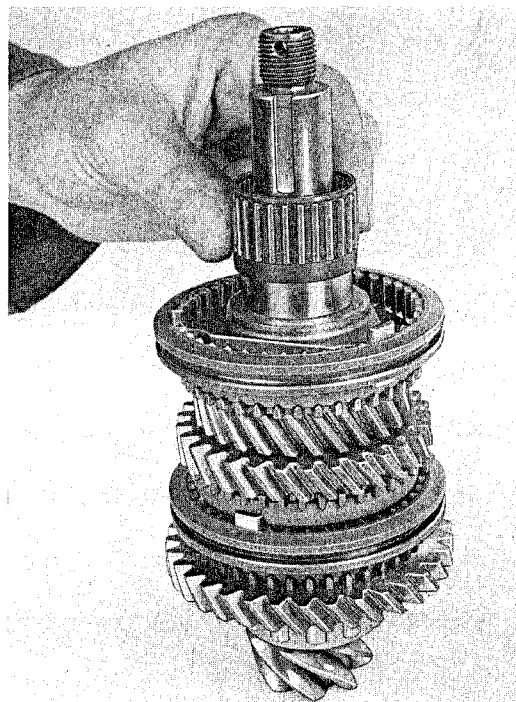

Fig. 65
15. Install needle bearing so that needles lie under center of gear teeth (Fig. 65).